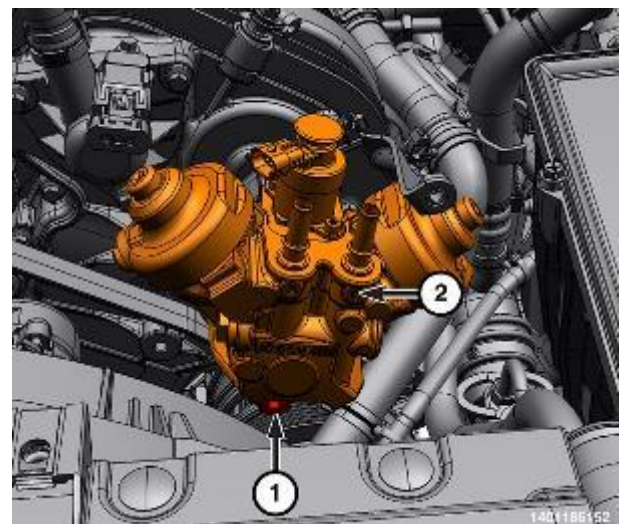

Figure 196 – HPFP Lower Bolt
- 41. Install the pump to the engine using the pins as a guide. Install the lower fuel injection pump bolt (1) and hand tighten the bolt (Figure 196).